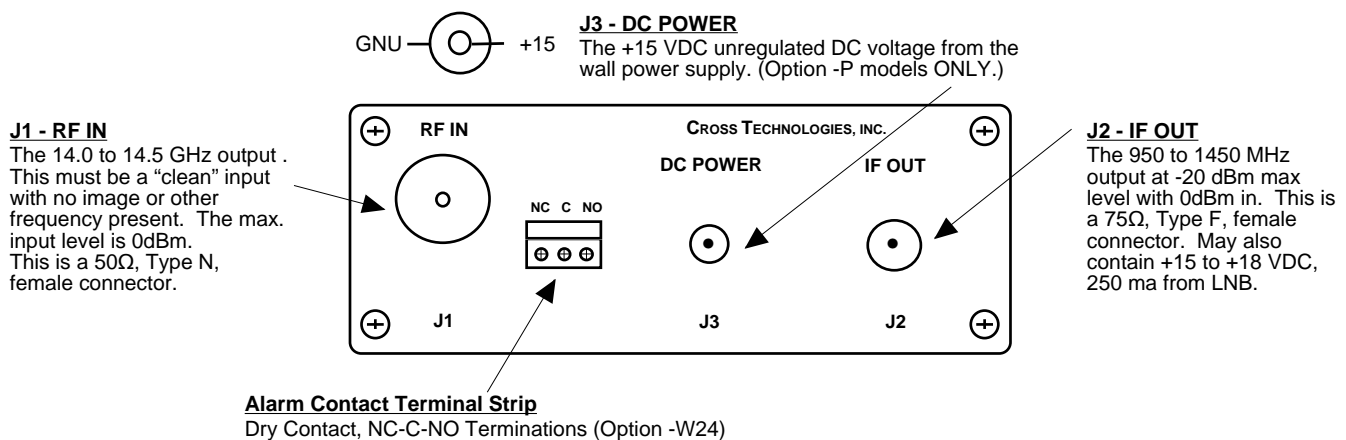

FIGURE 2.3 Model 2009-140 Rear Panel Inputs and Outputs
Figure 2.3 shows the input and output signals to the 2009-140.
1. For **-P** models, connect one end of the Wall Power Supply to the 2009-140 DC Power In, J3, and the other end to 115 VAC, 60 Hz (Figure 2.3).
2. Connect a 0 dBm, maximum signal to RF IN, J1 (Figure 2.3).
3. Connect the IF OUT, J2, to the receiver under test (For models powered from the LNB be sure that the LNB voltage is +15 to +18 VDC, 250 mA max.) (Figure 2.3).